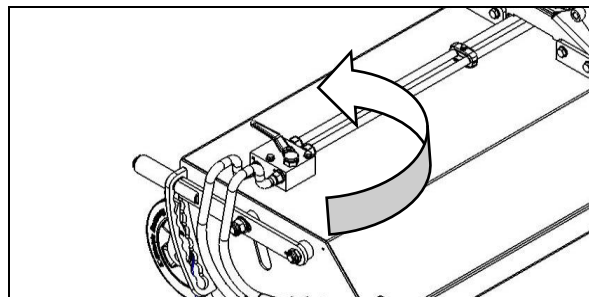

Fig. 4.9
- Close the shut-off valve to the side brush hydraulic motor (Fig. 4.9)